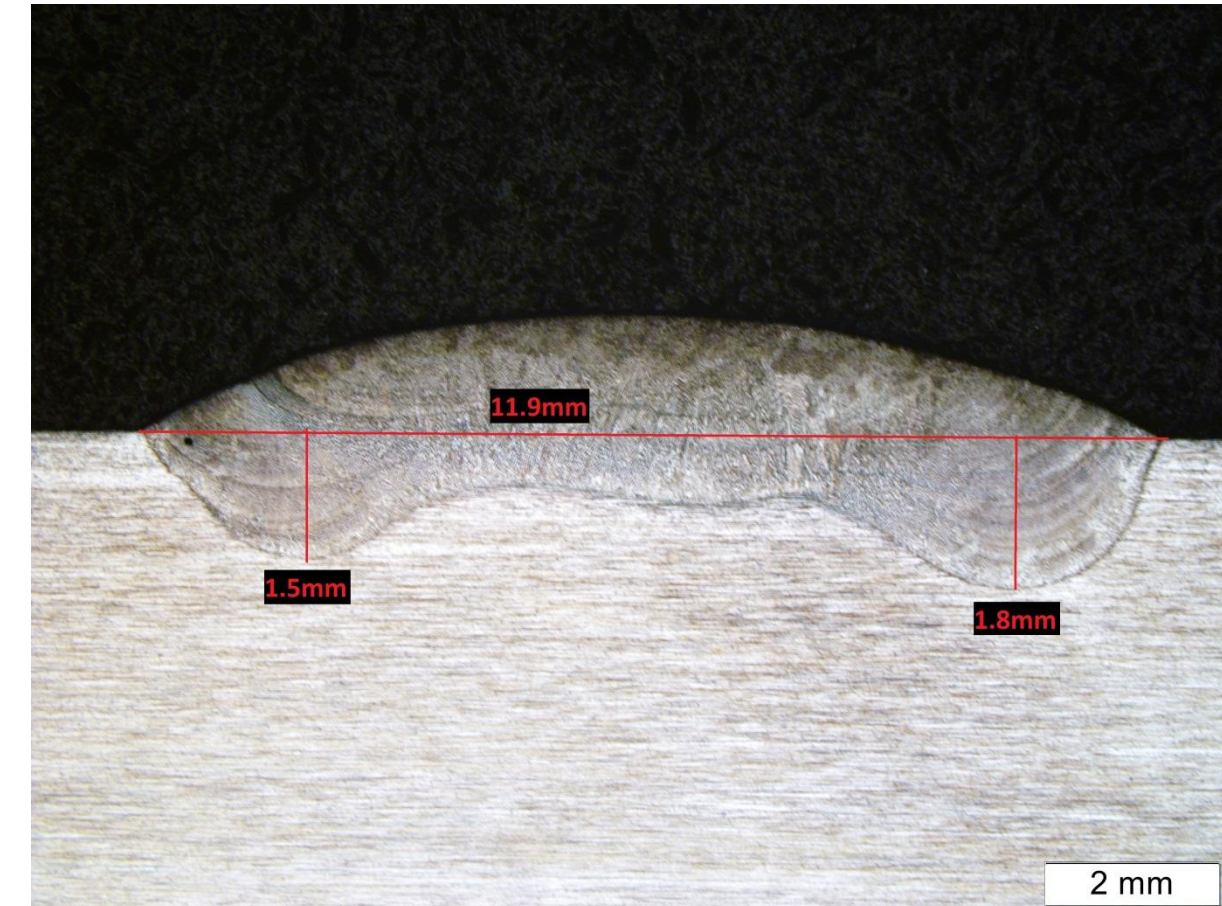

Figure 2: Weld with 308LSi Filler Wire
- The following Figures (figures 2 & 3) show the difference in weld penetration profile between the 308LSi and 308L SS7 DeepTIG Flux cored wire.